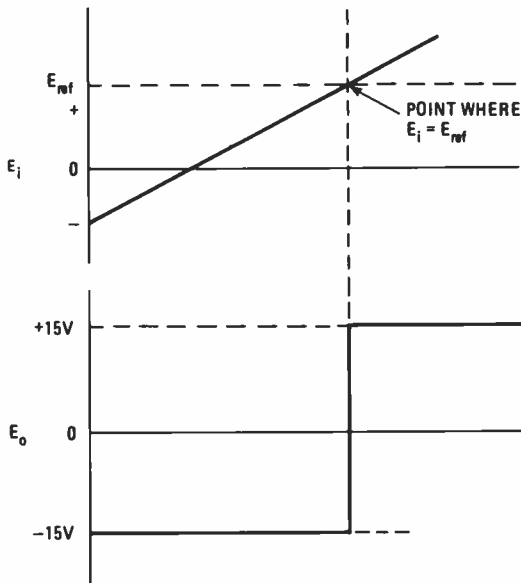

Fig. 15—These are the switching waveforms in an op-amp comparator.
31. ( $E_{ref}$ ,  $E_i$ ) Figure 15 shows some input and output waveforms that will better illustrate the operation of a comparator. The reference is a fixed DC level, as is often the case.